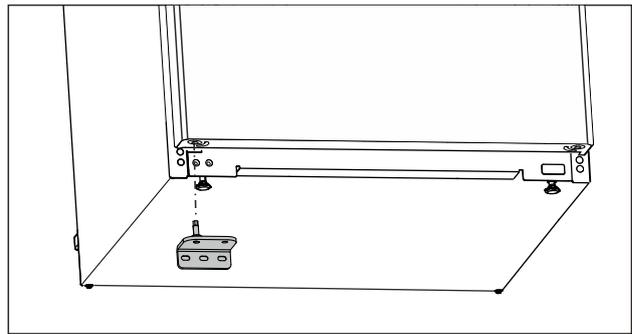

Fig. 23
- ▶ Insert the lower swap bearing block on the opposite side. (see Fig. 23)